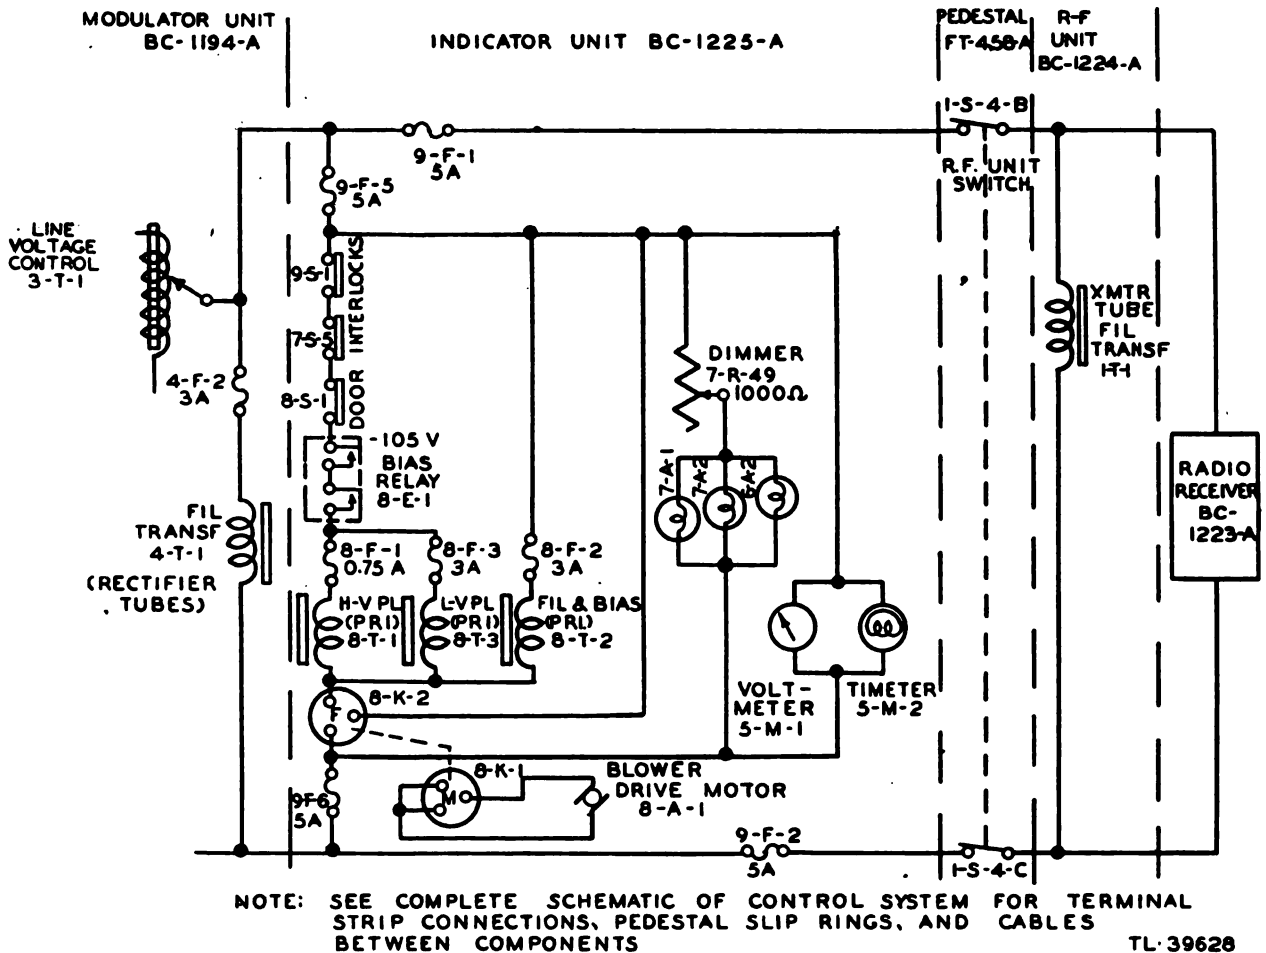

Figure 17. Regulated supply circuit, simplified schematic diagram.
**13. Regulated Supply Circuit (fig. 17)**
c. **INDICATOR LAMPS.** The indicator lamps illuminate the control knobs on the indicator control and the azimuth index of the azimuth dial. Lamps 7-A-1 and 7-A-2 supply light for the indicator control knobs, and lamp 6-A-2 supplies the light for the azimuth dial. All three lamps are in parallel as shown in figure 17. They are connected in series with the dimmer LIGHTS
**d. RANGE CONTROL LIGHT.** Another lamp (not shown in fig. 17) is located behind the RANGE switch to illuminate the range setting. This lamp, 7-A-4, is supplied by a 7-volt secondary winding of transformer 8-T-2 in Power Supply Unit RA-100-A. It normally lights when the regulated supply a-c input is fed to this unit. Figure 17 shows the regulated supply a-c input to transformer 8-T-2 of Power Supply Unit RA-100-A through fuses 9-F-6, 9-F-5, and 8-F-2, and receptacle 8-K-2. This receptacle acts as a safety device since the Power Supply Unit RA-100-A cannot receive power until connector 8-K-1 is inserted. In this way, the blower motor must be connected before power is applied.
with the cathode circuit of rectifier tube 8-V-2 is the coil of the bias relay 8-E-1. Thus, when transformer 8-T-2 receives power, the bias rectifier is operative, the bias relay coil is energized, and the relay contacts close. These contacts (fig. 17) in turn close another circuit which allows power to be applied to transformers 8-T-1 and 8-T-3. The complete circuit which places the regulated supply voltage across transformers 8-T-1 and 8-T-3 comprises the series combination of the bias relay contacts 8-E-1, interlocks 8-S-1, 7-S-5, and 9-S-1, fuses 9-F-5 and 9-F-6, and receptacle 8-K-2.
**j. INDICATOR BLOWER MOTOR.** As shown in figure 17, this motor is connected across the regulated supply through fuses 9-F-5 and 9-F-6 and receptacle 8-K-2. The connector 8-K-1 when inserted into receptacle 8-K-2 completes the circuit.